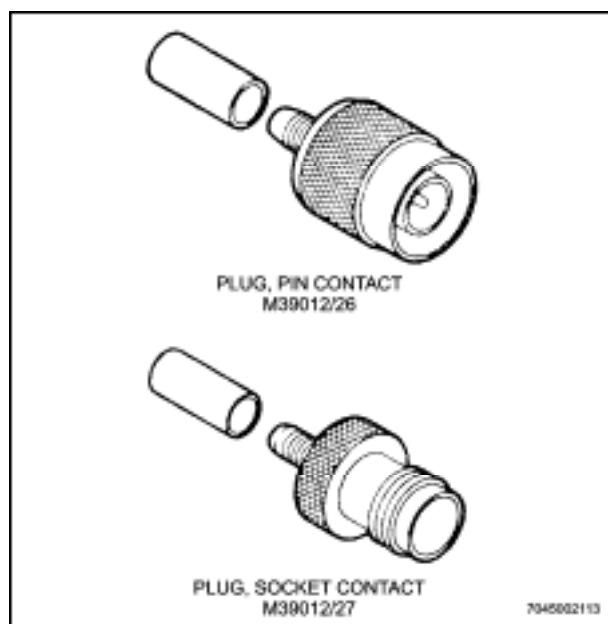

Figure 12-7 Typical TNC Connectors
- f. **TNC Series.** A small lightweight connector similar to the BNC series, but having a threaded coupling, used where a positive coupling under vibration and a low noise level is desirable. (See Figure 12-7.)